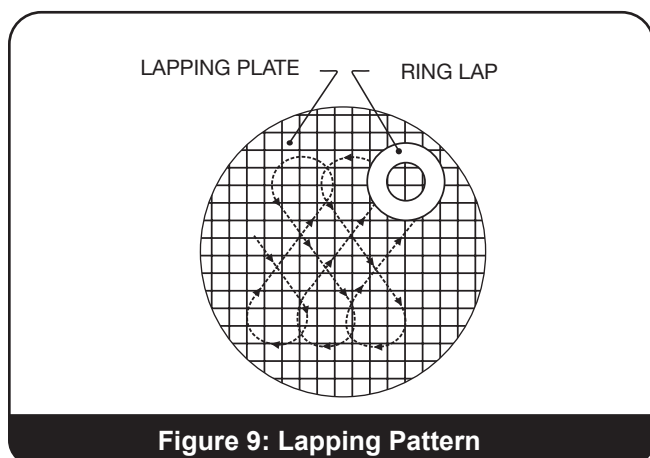

Figure 9: Lapping Pattern
Reconditioning of laps is accomplished by lapping them on a flat lapping plate. The lapping should be done with a figure-eight motion as indicated in Figure 9. To assure the best results when lapping seats, the laps should be reconditioned after each usage.
6. Lap, using an eccentric, or figure-eight motion, in all directions, while at the same time, applying uniform pressure and rotating the lap slowly (see Figure 9).